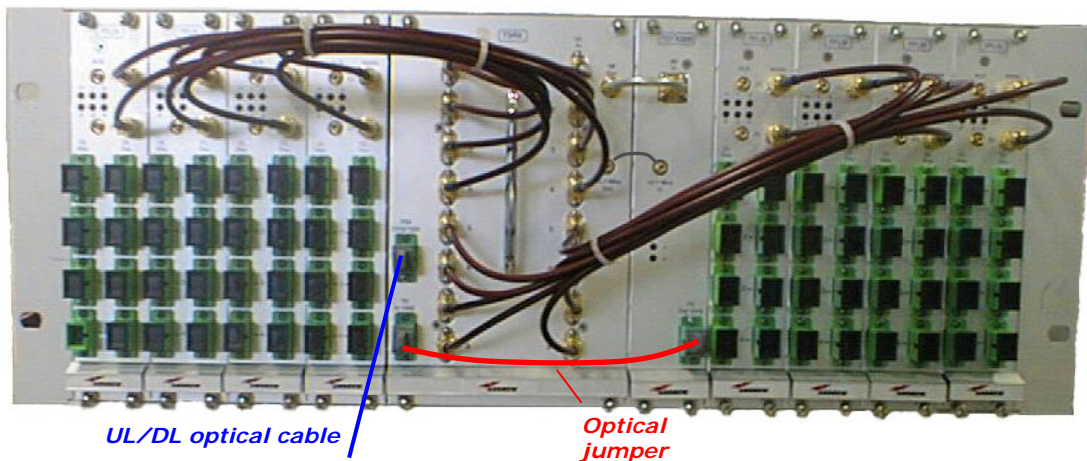

Fig. 5.39: TILx-HLW slave side
- The i-link modules at slave side should be installed in the middle of the slave subrack, or at least they should have no more than 4 TFLN modules both on the right side and on the left side of the TSRX 3xx/8 module. This requirement is advised in order to allow connection between the TSRX module and all the TFLN transmitters (see fig. 5.39)
On the master-side station, the WDM i-link modules are to be housed into 2 adjacent slots, chosen among the 12 available ones in the subrack. On the slave-side subrack, the WDM i-link modules are to be housed into 4 adjacent slots: moreover, due to the particular cabling they require, these 4 adjacent slots should be placed in mid-subrack, so that no more than 4 TFLN local units stay on each side of the WDM i-link modules (see fig. 5.39).